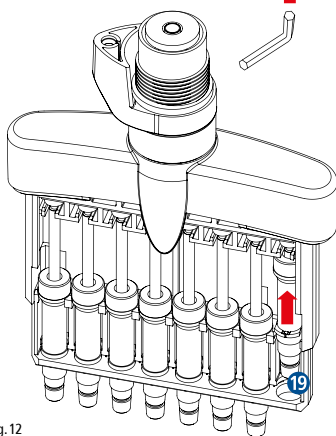
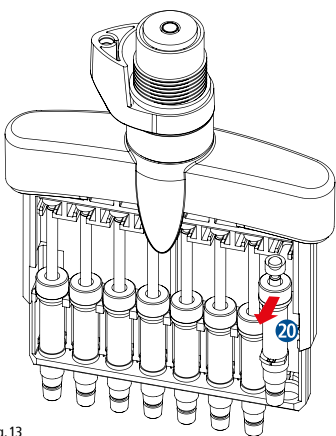

Fig. 12
Fig. 13
- The piston cylinder 19 is pushed up (Fig. 12) and the entire piston unit 20 can now easily be removed from the front (Fig. 13) and cleaned externally using an alcoholic disinfectant. Re-lubricate the piston with original STARLAB piston grease (see section 8 Ordering Information).